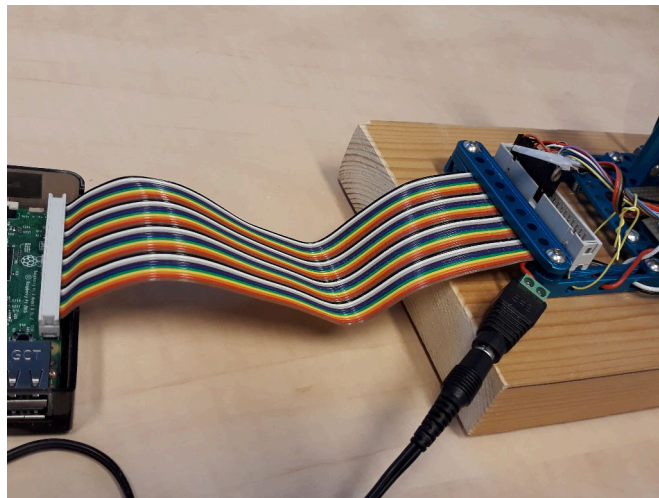

Figure 26: A 40 pins female-male Dupont wire connecting Raspberry Pi to Rotating Leds Systems. Also the 9V power connector for the 700rpm motor is shown.
- A 40 pins female-male Dupont wire to connect the Raspberry Pi the rotating leds system shown in figure 26. We can then easily connect the pi to the system. All circuit boards within the system can then be connected within the system to the male pins of this Dupont wire.